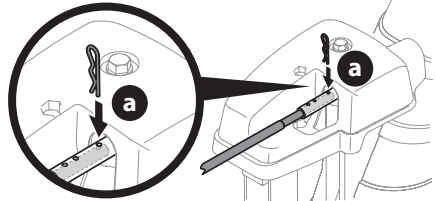

Figure 70
Follow this procedure to manually change the chute direction on models equipped with an electric chute control (joystick) and manual chute rotation control rod only (Figure 70).
1. Remove cotter pin (a) from either of the holes furthest from the chute assembly on chute control head (Figure 70).
2. Push in chute control rod until the hole in it lines up with the third hole in chute control head (Figure 70).
3. Reinsert cotter pin (a) through this hole and chute control rod (Figure 70).